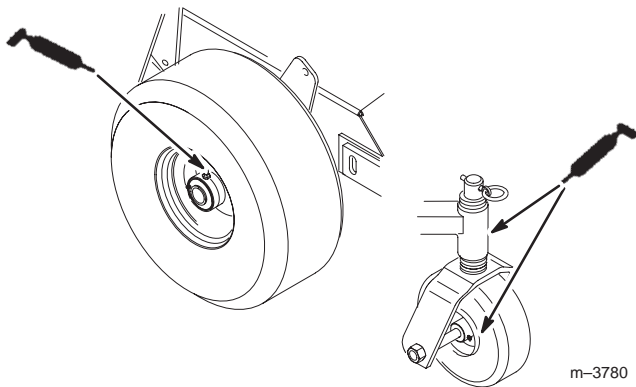

Figure 37
1. Lubricate the drive and castor wheel bearings and front spindles (Fig. 37). Lubricate every 8 hours.